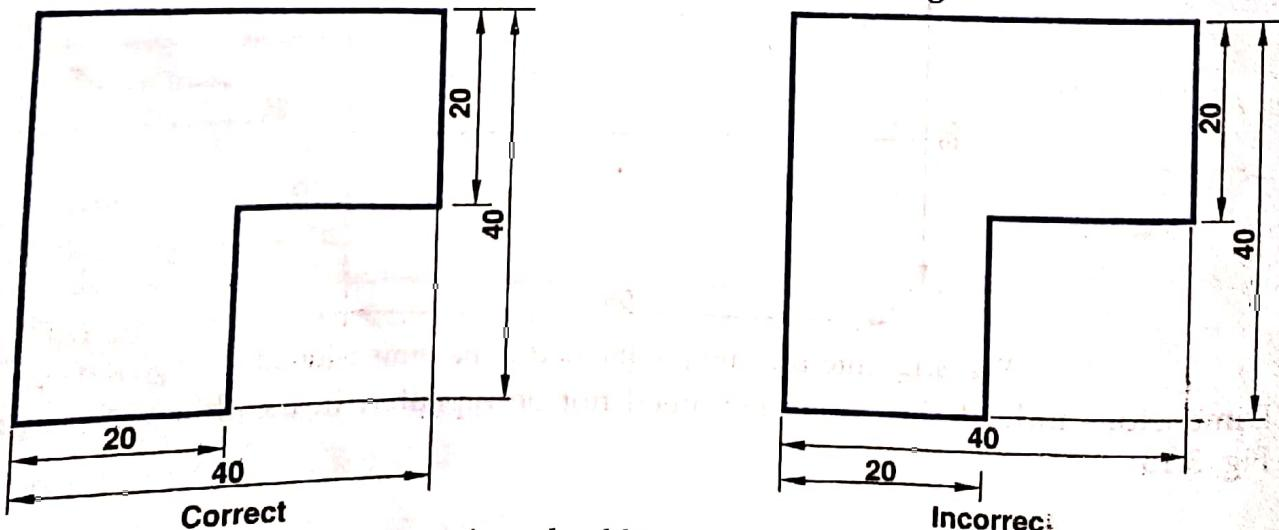

Fig. 3.16 Larger dimensions should be placed after the smaller dimension
- (v) Smaller dimensions should be placed nearer the view and the larger further away so that the extension lines donot intersect dimension lines. See Fig. 3.16.